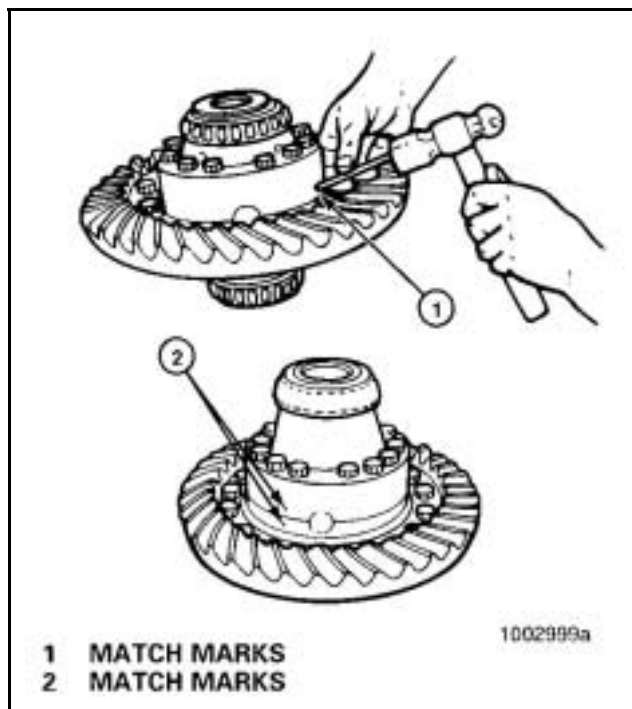

Figure 18
1. If the matching marks on the case halves of the differential assembly are not visible, mark each case half with a center punch and hammer. The purpose of the marks is to match the plain half and flange half correctly when you assemble the carrier. **Figure 18.**